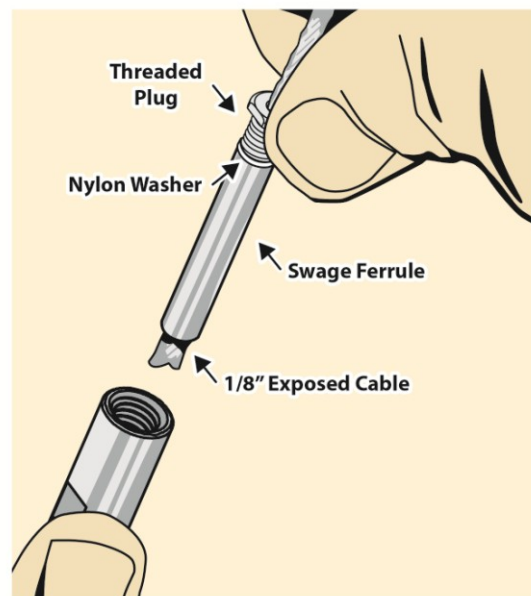

Fig 11
– Grasp cable end and push the following sequence of components onto the cable (Fig. 11).
- Refer to Fig 11.
- Screw on the FineLine® Threaded Plug (Fig. 11).